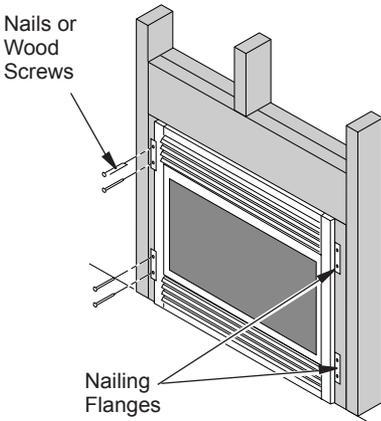

Figure 26 - Attaching Fireplace to Wall Studs
- Attach fireplace to wall studs using nails or wood screws through holes in nailing flange (see Figure 26, page 18).